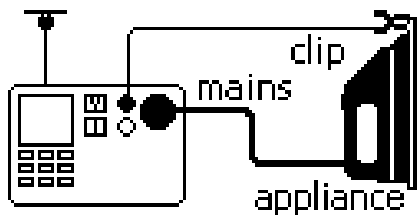

Figure 4. Bond Test Connections
- Connect the appliance and the earth bond test lead as indicated on the display. Clip the crocodile clip to an exposed conductive part on the appliance that requires testing, see fig. 4.